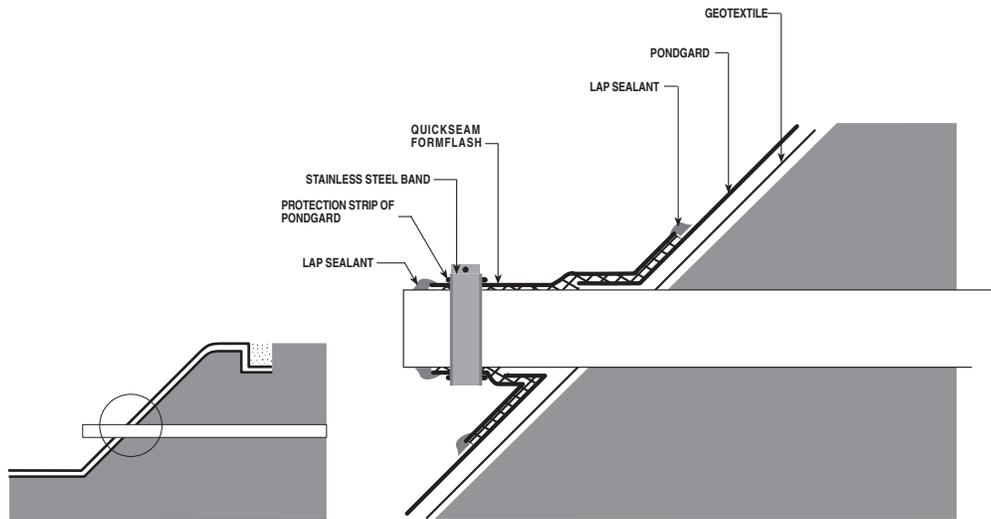

Figure 11. Connection around an accessible pipe
- *pipe and PondGard membrane are sealed by means of a piece of QuickSeam FormFlash as shown in figure 11 and 12.*
See Figures 11 and 12.